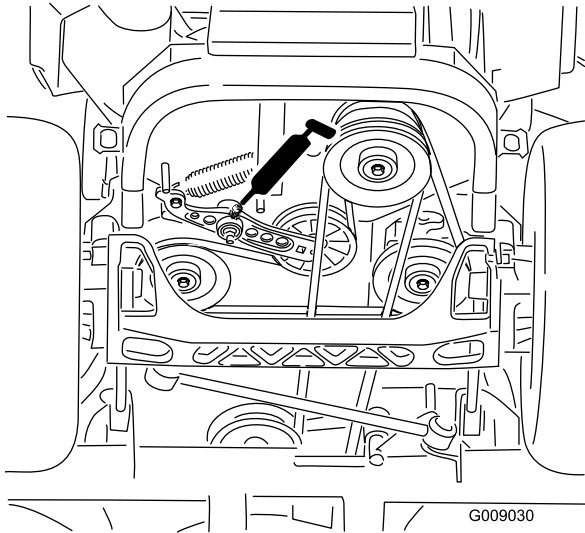

Figure 48
4. Grease the drive-belt idler arms (Figure 48).